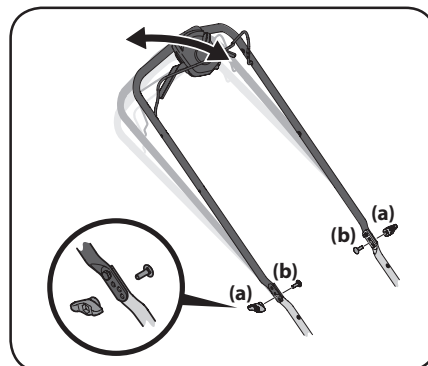

Figure 2-16
- Remove wing nuts (a) and carriage bolts (b) from handle. See Figure 2-16.
- Position the handle in one of the three positions that is most comfortable. See Figure 2-16 inset.